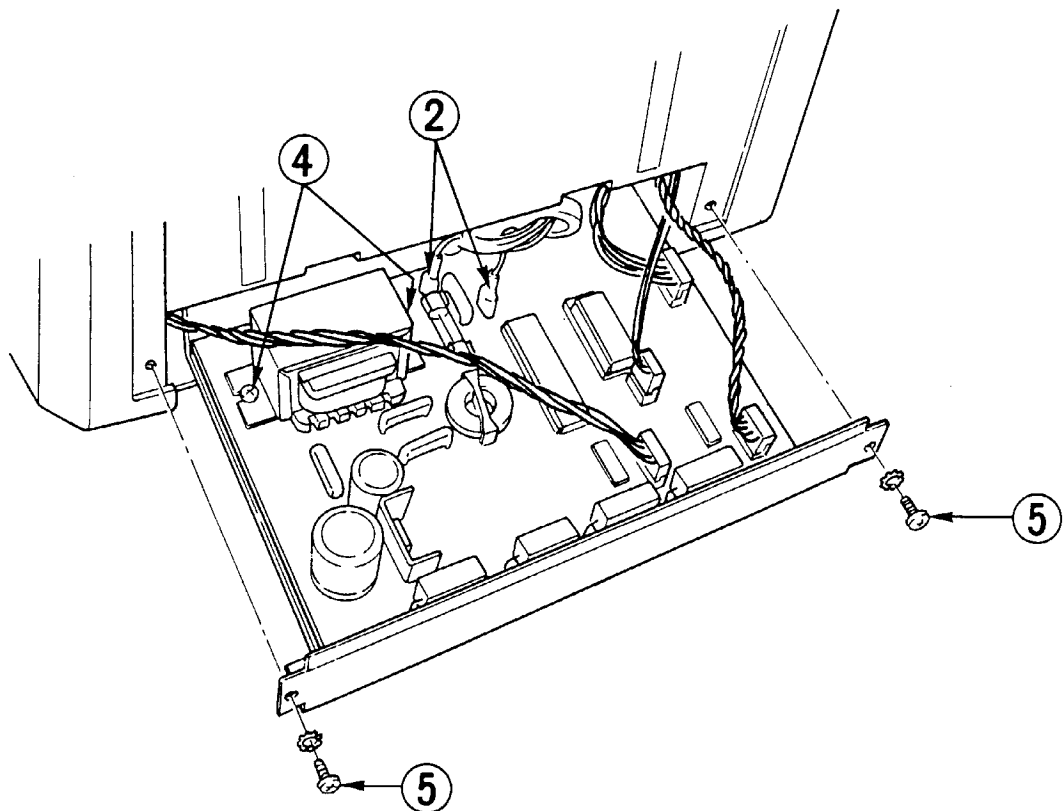

FIGURE 4-5. CIRCUIT BOARD REMOVAL
2. Disconnect AC input terminals from connectors J4 and J5 (see Figure 4-5).